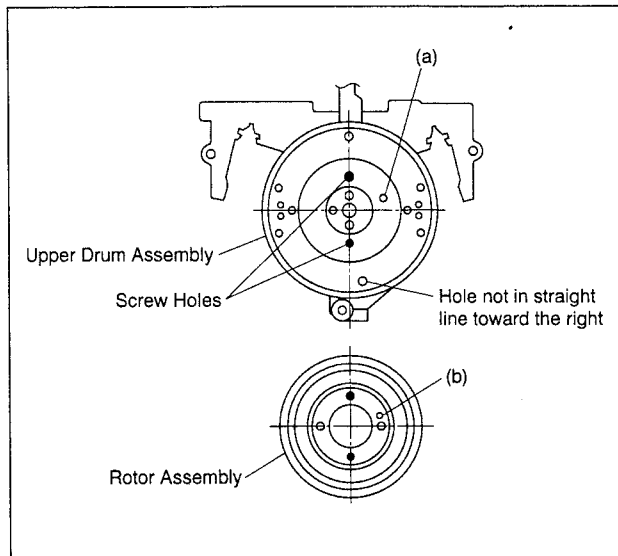

Fig. 2-5-24
NOTE : When attaching the rotor assembly, make sure that the phases are matched correctly. Otherwise, normal image cannot be displayed. (Fig. 2-5-24)
- (3) Set the phases of the upper drum assembly and rotor assembly as shown in Fig. 2-5-24.
- (4) Align hole (a) of the upper drum assembly and hole (b) of the rotor assembly, then tighten the 2 screws (B).